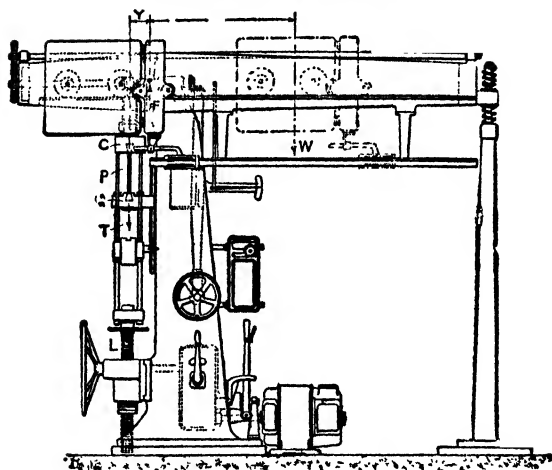

FIG. 21.—Testing machine. The test piece P supports the pull of the weight W multiplied by X/Y . Y is a fixed distance. X is read off by a scale marked in tons.
The machinery used for the purpose is illustrated in Fig. 21. The piece of steel P is strained between two cross-heads C, C. The lower one (C) is slowly pulled down by an electric motor M (or handwheel) working a screw (L). The top one (C) is con-